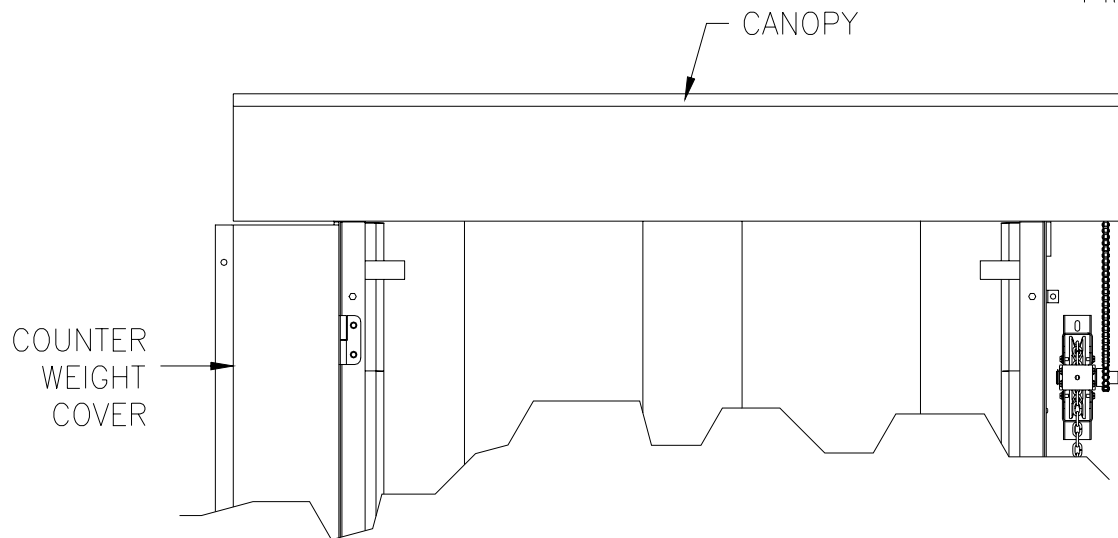

FIG. 11
- Make sure that the Canopy covers the full unit width (Figure 11)